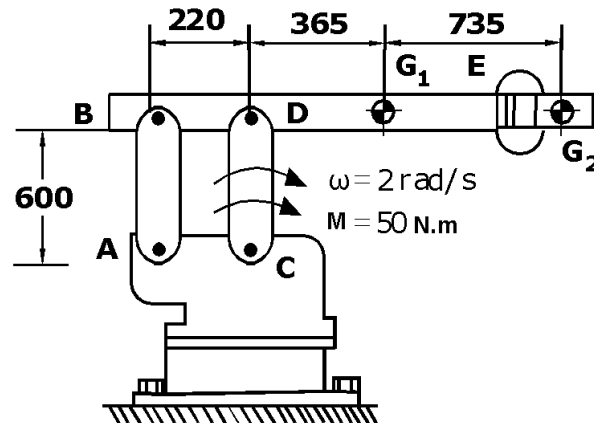

Figure Q3
- Q3.** Robot arms are widely used in the manufacturing and assembly process. Figure Q3 shows a robot arm designed based on the parallelogram structure. The arm BDE is operated by applying torque $M = 50 \text{ Nm}$ to the link CD and at the position shown the link CD has an angular velocity of 2 rad/s in the clockwise direction. The arm BDE has a mass of 10 kg with the centre of mass at G1. At the gripper E the robot is holding an object with a mass of 12 kg with the object centre of mass at G2. The mass of link AB and CD can be neglected. For the position shown,